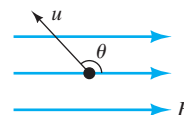

FIGURE P12.3 Force on a moving electron in a magnetic field.
- 12.3** (B)* An electron is moving in a magnetic field as shown in Figure P12.3. Find the force exerted on the electron given $u = 10^6$ m/s, $B = 10$ T, and $\theta = 120^\circ$.
- 12.4** (B) In Figure P12.3, find θ if $u = 10^6$ m/s, $B = 10$ T, and the exerted force on the electron is 1.6×10^{-12} N.